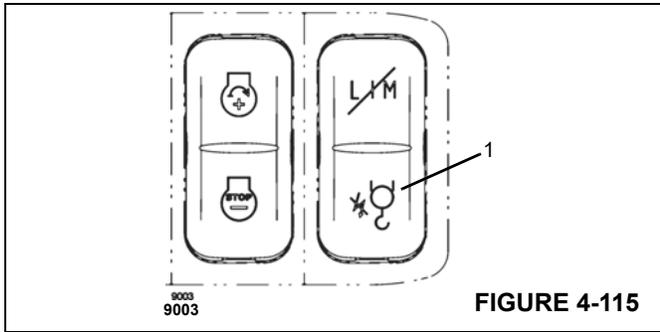

FIGURE 4-115
Press and hold the button (1), (Figure 4-115) – the swing gear is unlocked. The speed will then be reduced to 10%.